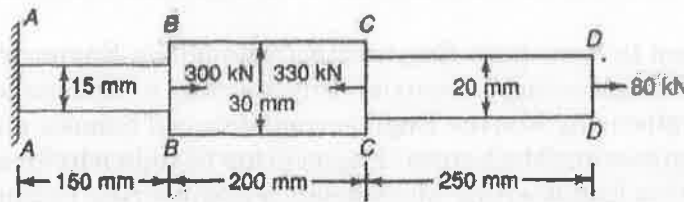

Figure 1
- (b) A steel circular bar has three segments, as shown in Figure 1. Determine
- the total elongation of the bar (4)
- the length of the middle segment (4)
- the diameter of the last segment to have zero elongation of the bar. Take $E = 205$ GPa. (5)